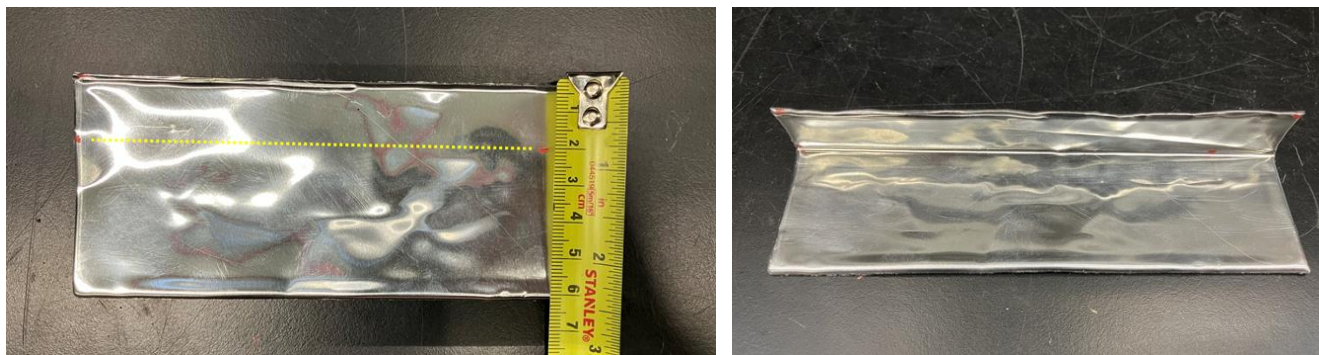

Figure 7
5. Shape the upper part of the butyl foil patch for the HEPA inlet duct: measure 2 cm (0.8 in) from the top, and then bend the top part in a straight angle (Figure 7).